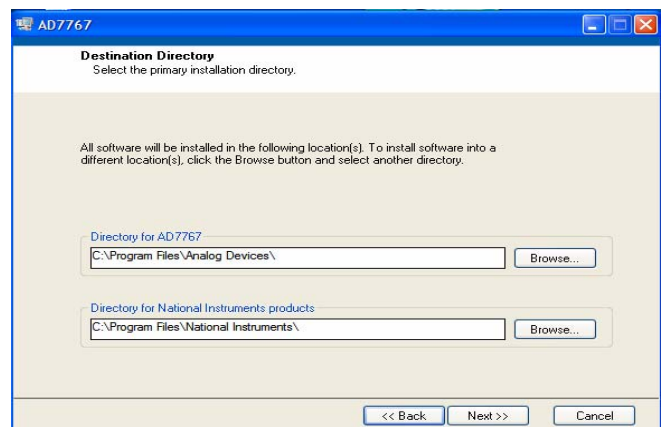

Figure 3 AD7767/-1/-2 Evaluation software install 2.
- 2) The destination directory can be chosen using the default clicking "Next" as shown in Figure 3.